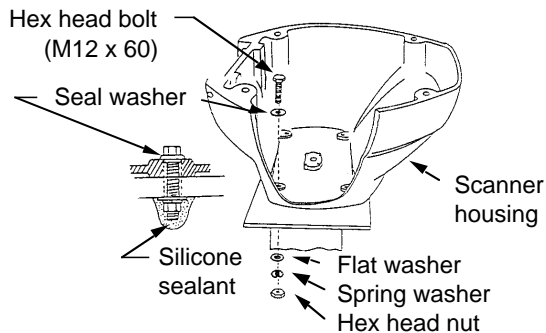

Figure 5-3 How to mount the antenna unit
- 4) Insert four M12 x 60 hex head bolts with the seal washers from inside the scanner housing, to prevent the bolts from contacting the transceiver module. Coat flat and spring washers and nuts and then use them to fasten the antenna housing to the mounting platform. Finally, coat exposed parts of nuts, bolts and flat and spring washers as shown in Figure 5-3.